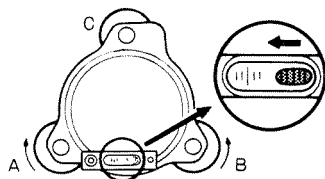

Fig. 13.1
- 1) See Figs. 13.1 and 13.2 for relation between bubble movement and rotation of the levelling foot screws.